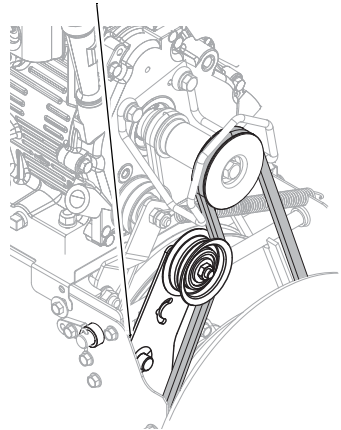

Figure 33
5. With the attachment clutch disengaged, check that the attachment idler arm lightly touches the frame (Figure 33).